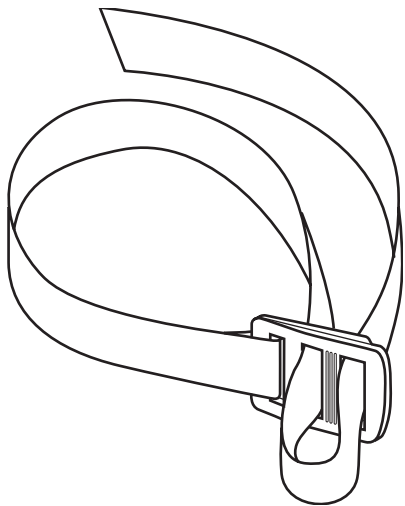

Figure 2. Secure gas cylinder with strap
2. Push the cable through the grip as illustrated in Figure 2.
2. Place gas cylinder on back plate and secure according to Figure 2.